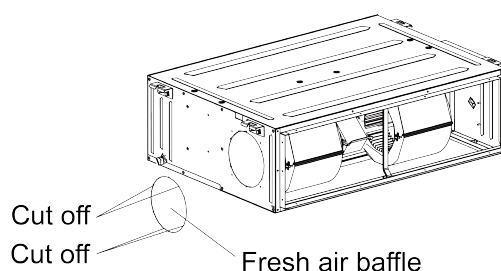

Fig.4.4.8
- (1) When the fresh air pipe is needed to be connected, cut the fresh air baffle as Fig.4.4.8. Plug up the gap of the fresh air baffle by sponge if the fresh air duct is not be used.